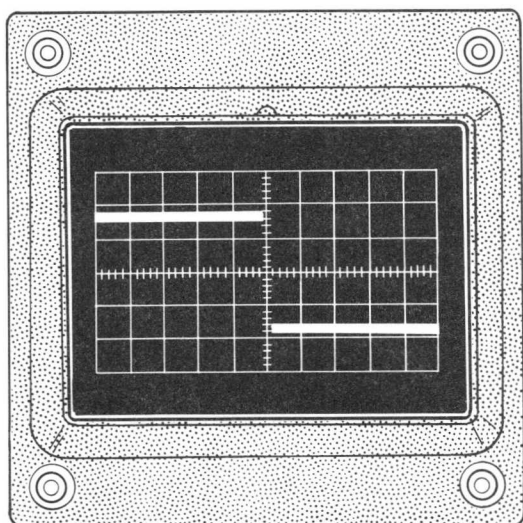

Figure 2-5
- () Adjust the GAIN CAL control (Figure 2-3) until one cycle is 10 cm in length as shown in Figure 2-5. Note that in viewing a 1000 Hz square wave, the vertical lines may not be visible. This is because the rise time is too rapid to be seen on the CRT.